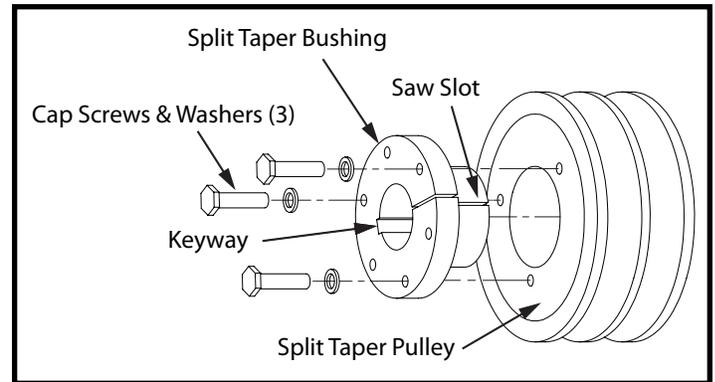

Figure 5. Split Taper Bushing & Pulley Assembly
- It may be necessary to slightly wedge open the saw slot (Figure 5) on some bushings in order to start the bore and position the bushing onto the shaft. A narrow edged regular screw driver may be used.
1. Align the keyway in the bushing bore with the shaft keyway and install the key. Make sure the key runs the entire length of the bushing bore. See Figure 5.